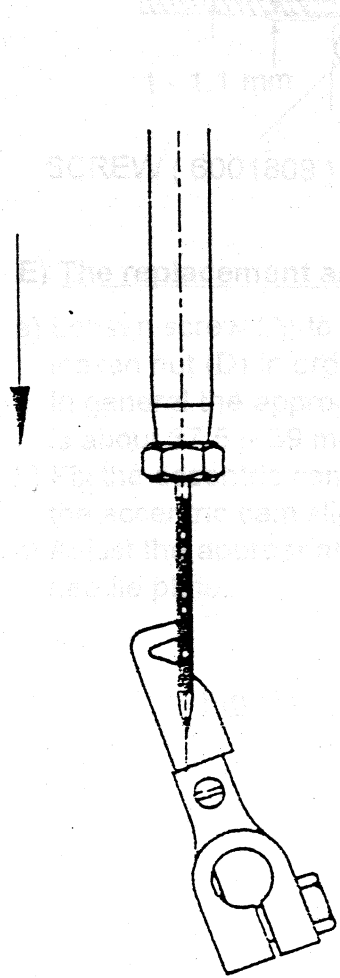

Fig. 08
**C) Adjustment / Side clearance between the looper & needle. ( Fig. 08 & Fig 09 )**
- a) Turn the gear ( 6001401 ) to the position of which the top end of looper just exceed the side surface of needle and check whether the distance between the top end of looper and needle is about 0.03 ~ 0.045 mm. ( see also Fig. 08 )